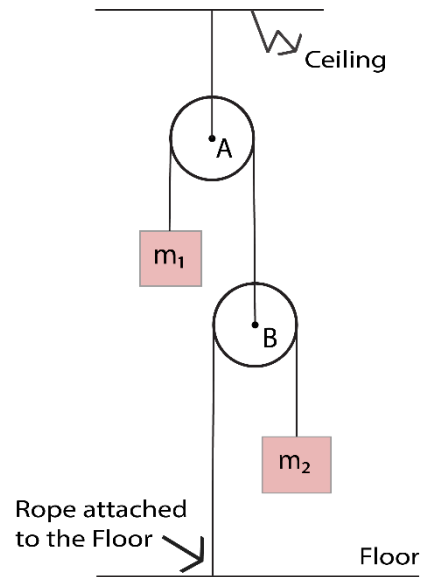

Fig. 2
2. Block 1 and block 2, with masses $m_1 = 5 \text{ kg}$ and $m_2 = 2 \text{ kg}$, are connected by a system of massless, inextensible ropes and massless pulleys as shown in Fig. 2.